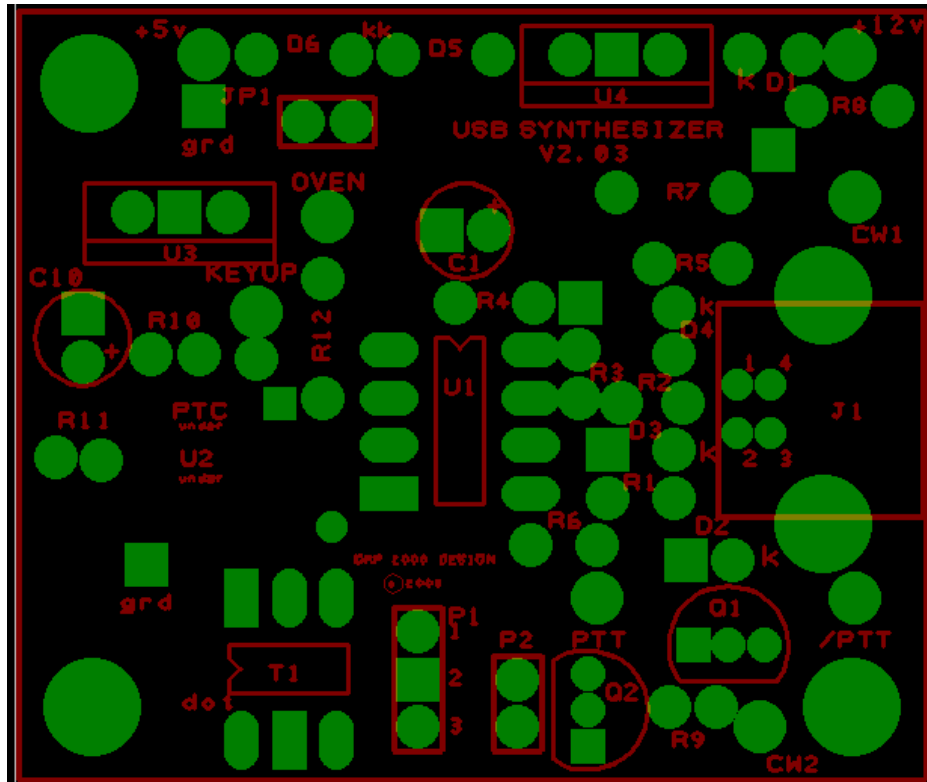

Fig 3 Component lay-out diagram
- () Fit PCB terminals by pressing pin through PCB using a hard metal surface or long nose pliers making sure that you do NOT damage any of the SMD capacitors in the process and solder at Bottom layer . Typical location of the PCB terminals is: +12V, +5V, GND, CW1, CW2 and PTT as shown in Fig 3 below.